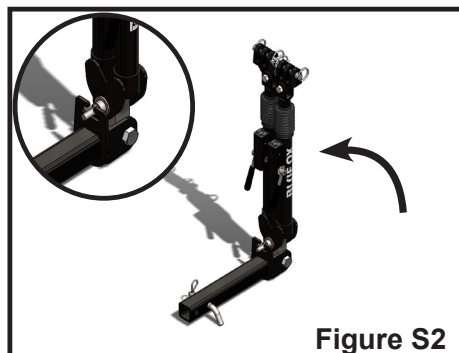

Figure S2
2. With legs together, swing them up towards the towing vehicle until the hold up bolt passes through the gap in the hitch connector (Figure S2).